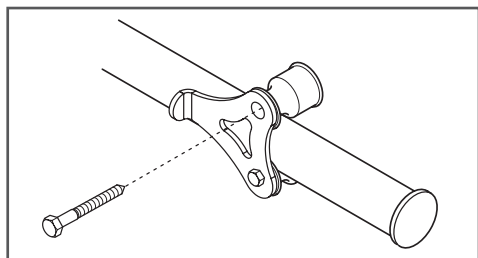

Figure 6
9. Rotate the stop (D.) if necessary, and install with the upper track support (C.) using a lag screw (B.). Tighten the upper and lower track supports (Figure 6). Repeat for the other end of the track.